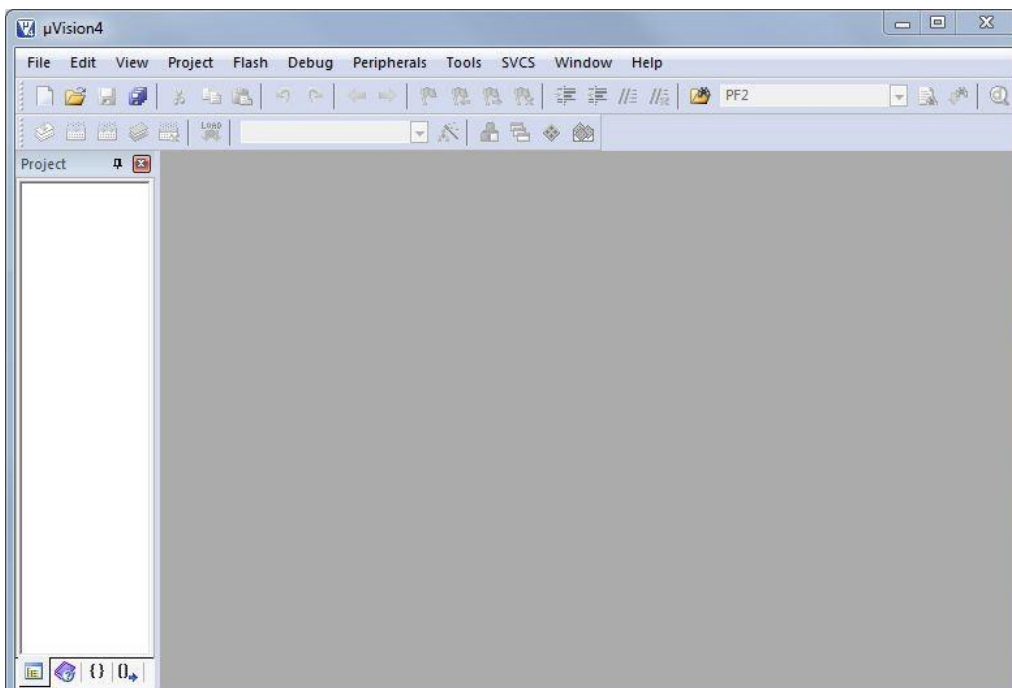

**Figure 1**
2. The downloaded sample projects must be saved in a specific directory in order to run correctly. It is assumed you already install the TivaWare library in C:\ti\TivaWare\_C\_Series-2.x.x.xxxxx. First create a new directory “my\_projects” (you may have already created it in Lab 2) under C:\ti\TivaWare\_C\_Series-2.x.x.xxxxx \examples\boards and then save and decompress the sample projects under “C:\ti\TivaWare\_C\_Series-2.x.x.xxxxx\examples\boards\my\_projects” as shown in Figure 1.